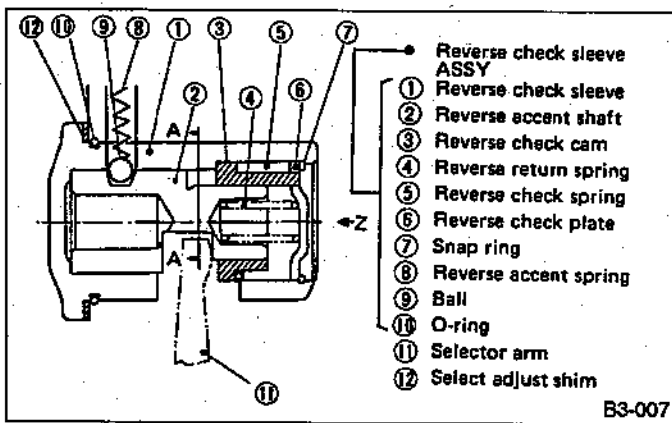
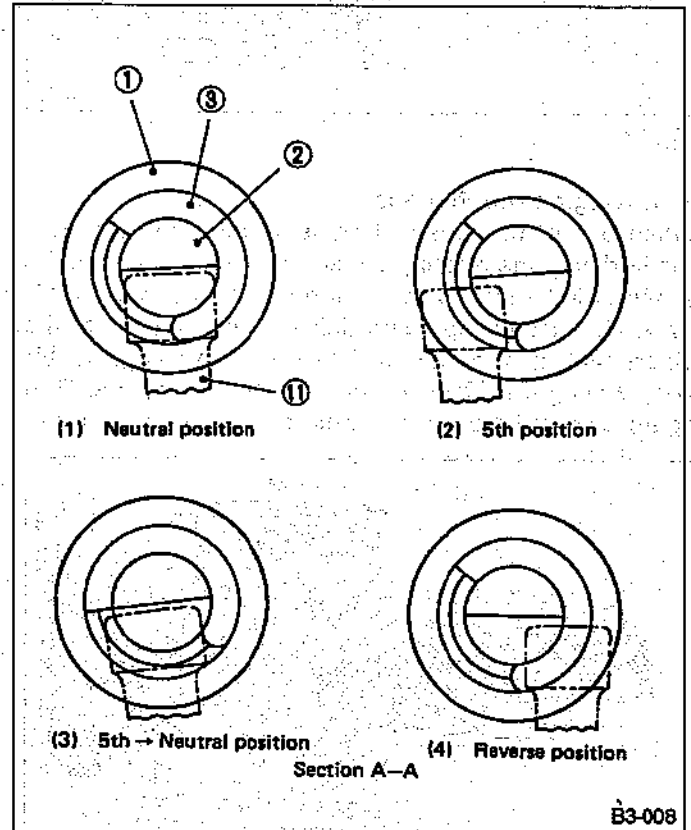
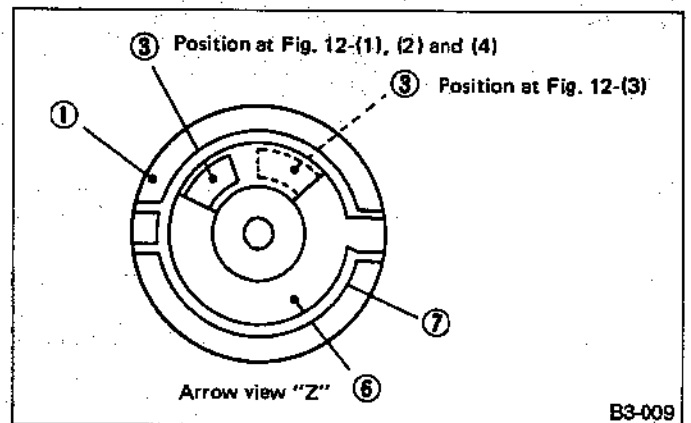

Fig. 11
Fig. 12
Fig. 13
As shown in Fig. 11, the sleeve ① and shaft ② have a notch, and the arm ⑪ is placed between the notches. The position of the arm ⑪ shown in Fig. 11 is the neutral position (hereafter referred to as (N) position). The point where the arm stops when moved to the left is the 1st and 2nd position. Opposite this, the point where the arm stops when moved to the right is the 5th and reverse position. Fig. 12 shows the section A-A in Fig. 11, and Fig. 13 the view Z in Fig. 11.
The arm ⑪ pushes the shaft ② and cam ③ simultaneously and moves to the 5th and reverse side, as shown in [Fig. 12-(1)].
As shown in [Fig. 12-(2)], the arm ⑪ moves to the 5th side pushing the shaft ②. When the arm ⑪ pulls out of the cam ③, the cam is returned to the original position by the spring ⑤.
As shown in [Fig. 12-(3)], the arm ⑪ moves to the reverse side pushing the shaft ② and runs against the
cam ③ that has already returned. The cam ③ has, as shown in [Fig. 13], a stopper, which hits against the plate ⑥. Thus, the cam ③ cannot rotate further. Accordingly, the arm ⑪ comes to a stop at a point where it has turned the cam ③ to a certain degree (i.e., (N) position), and the cam ③ is pushed back to the (N) position by the shaft ② (i.e., the spring ④).
From the position shown in [Fig. 12-(1)], the arm ⑪ again moves to the 5th and reverse side. When the shift is made to reverse, the arm ⑪ moves to the reverse position while pushing the shaft ② and cam ③ together.